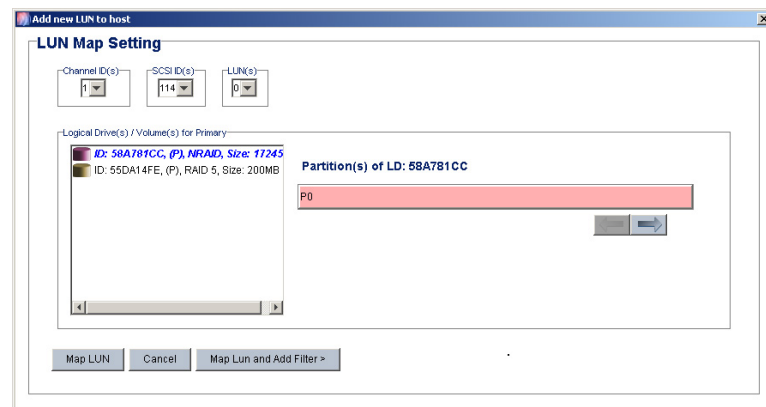

Figure 10-3: LUN Map Setting Window
**Step 3.** After selecting the ID, the **LUN Map Setting** window appears as shown in *Figure 10-3*.
**Step 2.** Follow the steps listed in *Section 10.1* above to access the *Host LUN Mapping* window shown in *Figure 10-3*.
-  **Step 2.** Follow the steps listed in *Section 10.1* above to access the *LUN Map Setting* window shown in *Figure 10-3*.